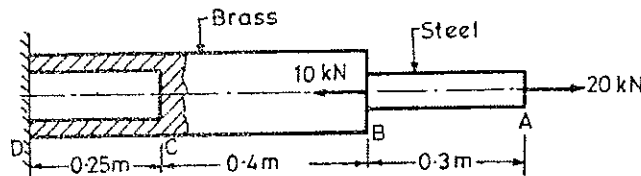

Fig. Q1
- (b) The diameters of the brass and steel segments of the axially loaded bar shown in Fig. Q1 are 30 mm and 12 mm respectively. The diameter of the hollow section of the brass segment is 20 mm. Taking $E_s = 210 \text{ GPa}$ and $E_b = 105 \text{ GPa}$, determine